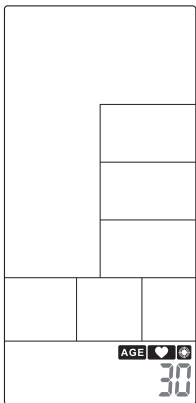

FIGURE 45
- Press UP / DOWN (KEY 10 or 11) to adjust the age (Figure 45). Then press ENTER (KEY 19) to confirm the age and start training.